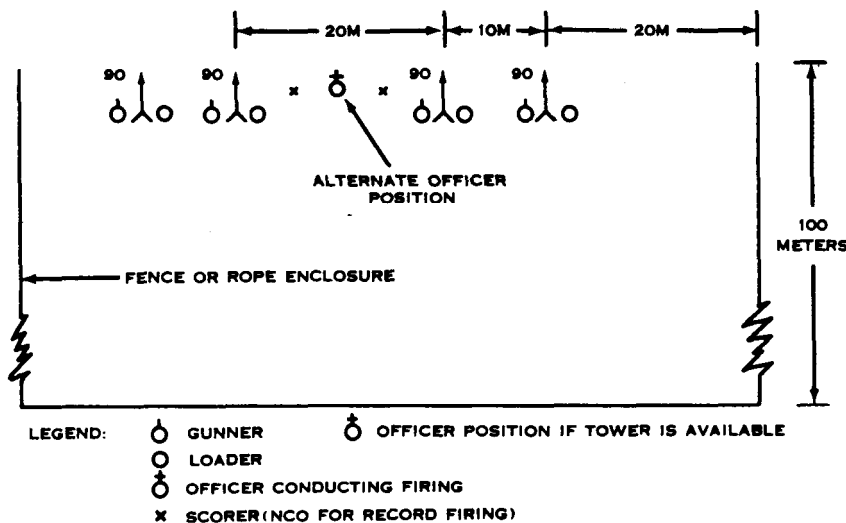

Figure 31. Range organization.
- a. See figure 31 for organization of the firing line.